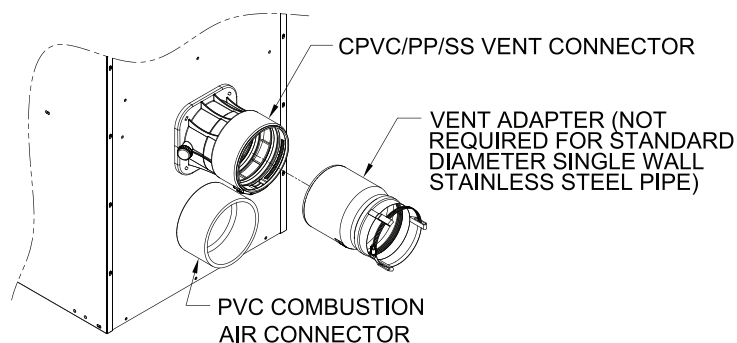

Figure 22: Field Installation of Stainless Steel Vent Adapter
2. Field Installation of Stainless Steel Vent Adapter (see Figure 22)